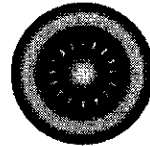

Fig. 4
3. Visually check that the inner ring of the right front Burner has lit. (See Fig. 4)